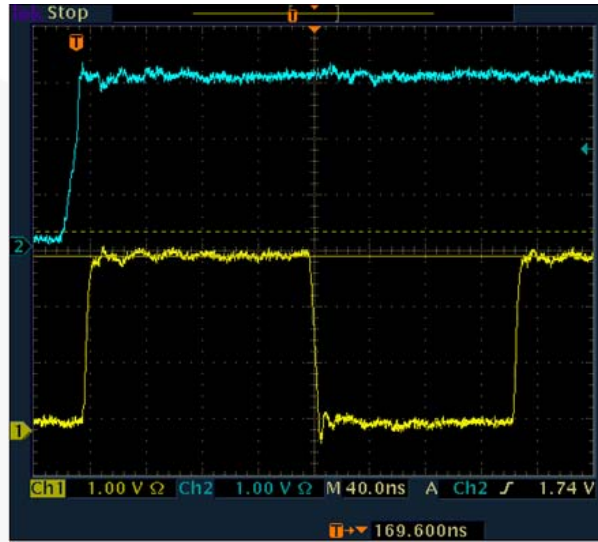

Figure 13. Scope Shot of I/O and Clock Signals
Due to open-drain technology, hosts and SIM cards do not use push-pull drivers on the I/O pin. Logic LOWs are pulled down (I_{sink}), while logic HIGHs are “let go” (3-state). During a logic LOW on the I/O pin, both series NpassGates are turned on and act like a very low resistive short between the host and the SIM card. When the host or card lets go of a previously held LOW on the I/O pin, the rise time is largely determined by the RC time constant, where R is the internal pull-up resistor (10K Ω) and C is the I/O signal trace capacitance. The FXLA2203 acts as a very low resistive short between the host and SIM card (during a LOW) until either of the port’s $V_{CC/2}$ thresholds are reached. After the RC time constant has reached the $V_{CC/2}$ threshold of either port, the port’s edge detector triggers both dynamic drivers to drive their respective ports in the LOW-to-HIGH (LH) direction, accelerating the rising edge. The resulting rise time resembles the CH2 waveform (blue) of Figure 13. Effectively, two distinct slew rates appear in the rise time. The first slew rate (slower) is the RC time constant of the I/O signal trace. The second slew rate (faster) is the dynamic driver accelerating edge.